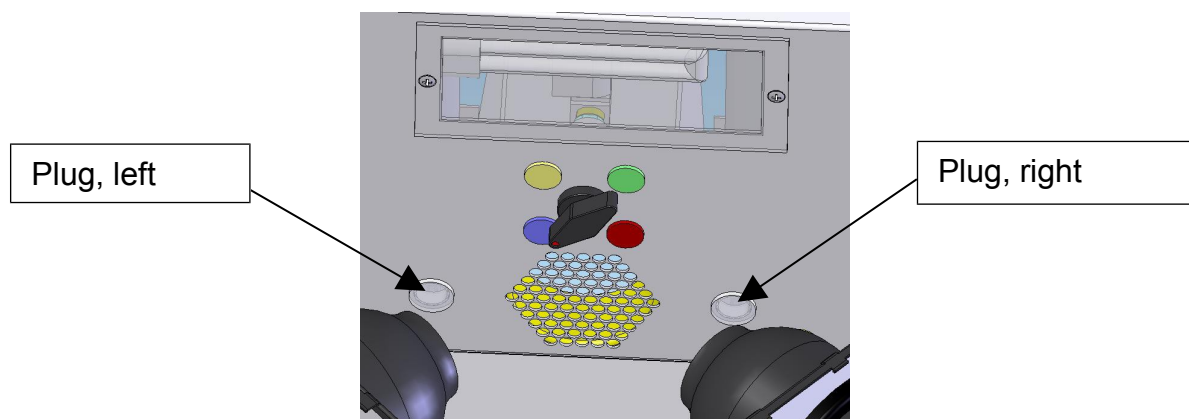

Fig. 1
- In the work room remove the plug for the lead through of the steel stylus: left for the left-hand add-on tank (yellow); right for the right-hand add-on tank (green). **Figure 1**